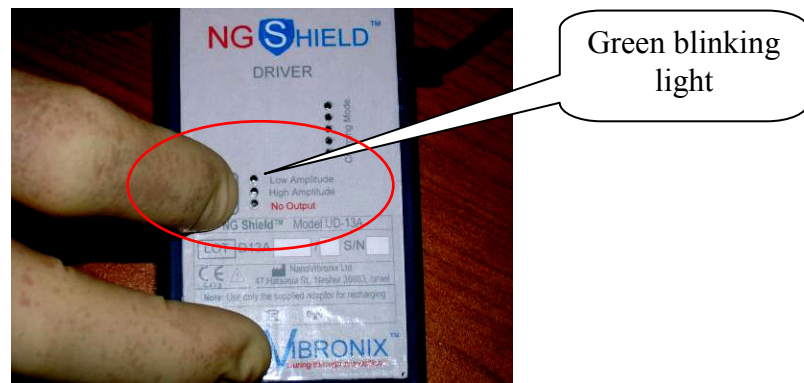

Figure 6: Driver activation
1. Press ON/OFF button on driver's front panel to activate the device. Note that a blinking green light indicates that the system is working (see Figure 6).